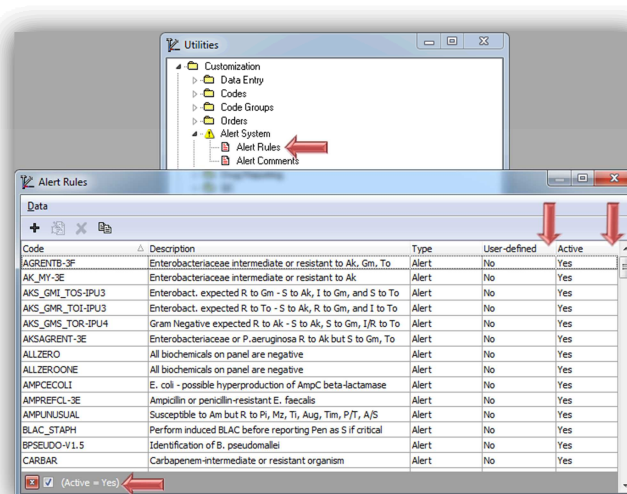

Figure 1: Alert Rules Filtering
3. Click the dropdown arrow in the upper right corner of the **Active** column header. The filter dropdown box displays. Confirm that the **Yes** checkbox is selected (See Figure 1).